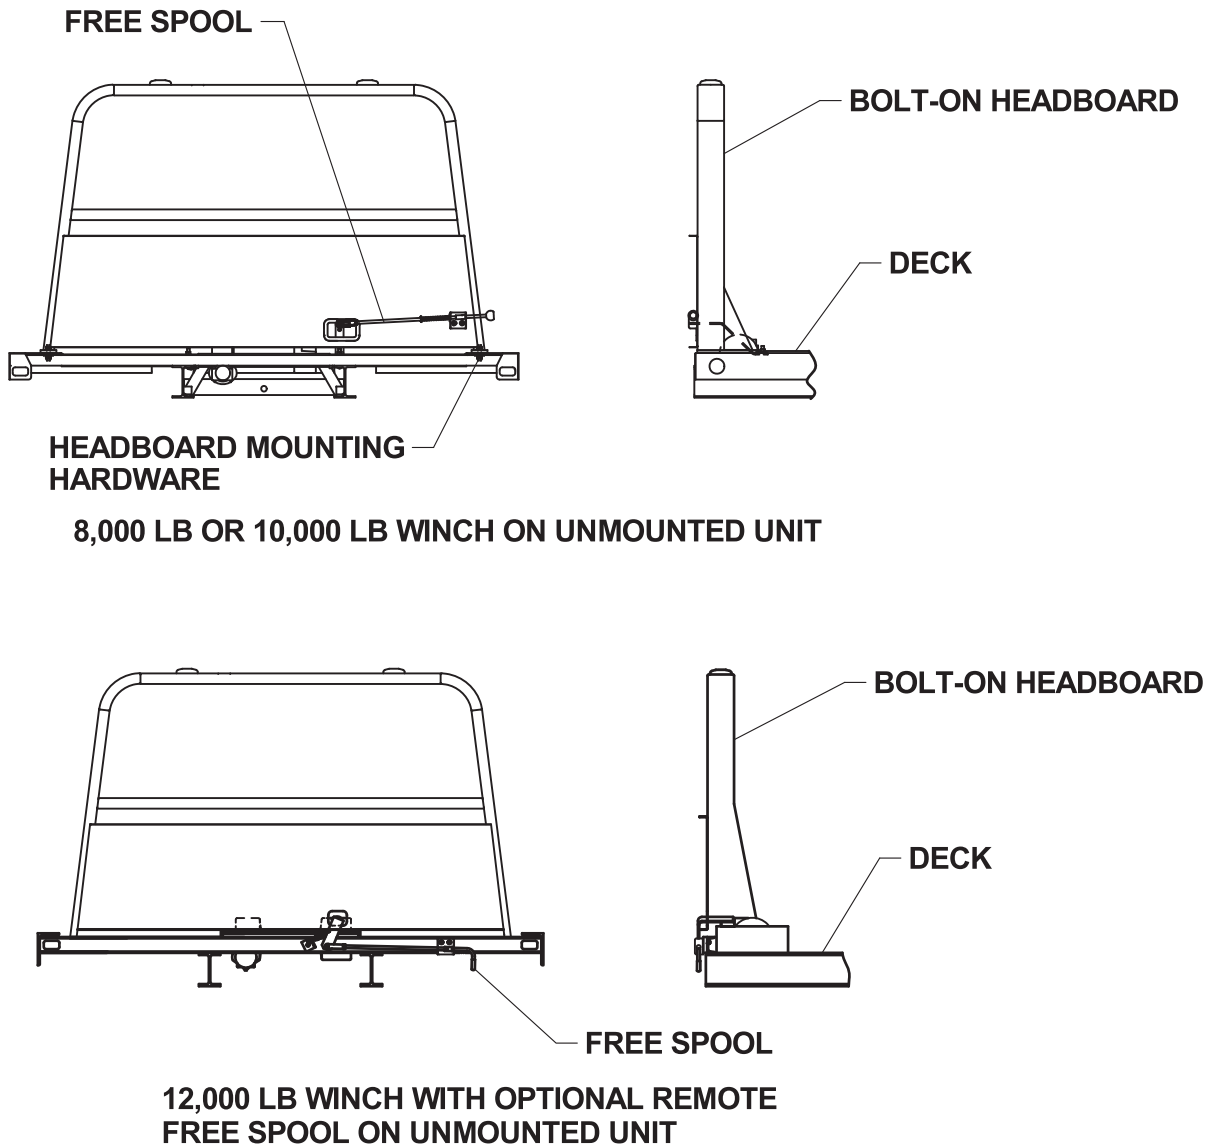

Figure 13 - Bolt-On Headboard Removal
1. Remove the winch free spool components keeping all the parts except the Z bracket on the 8,000lb and 10,000 lb winches for later use. See *Figure 13*.